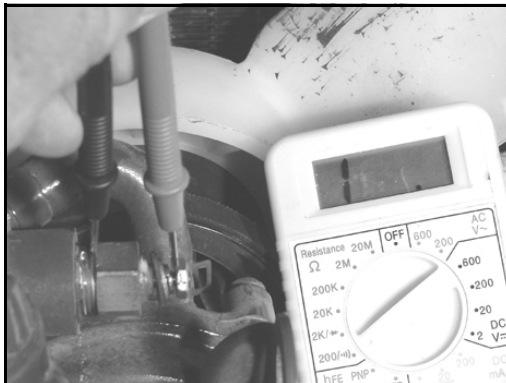

Figure 10H-1. Coolant Temperature Sender
4. Place one test lead on the sender wiring harness connector stud. Place the other test lead on the base of the sender, see Figure 10H-1.